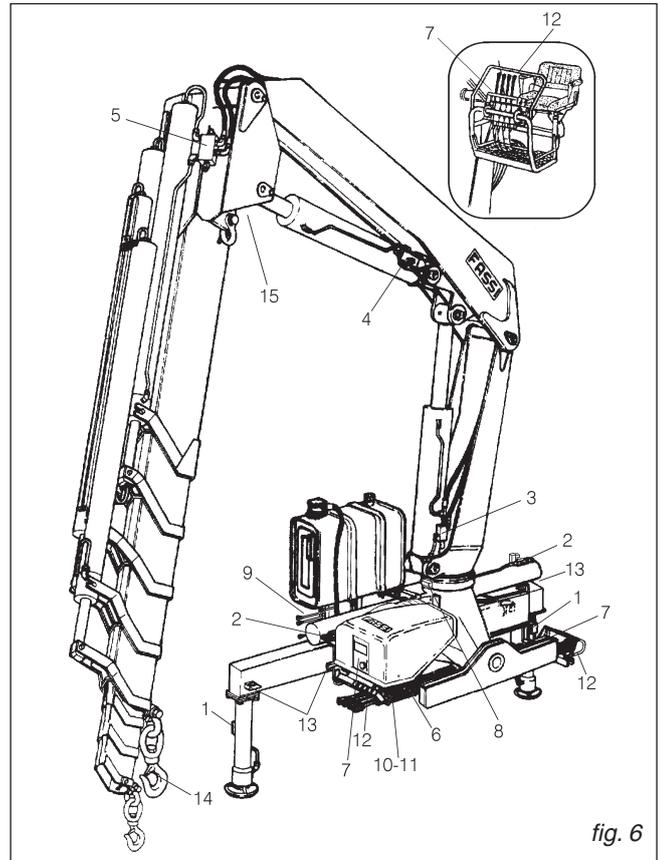

fig. 6
10.1 Crane with ground controls on both sides. Crane with ground controls on both sides and with top seat controls by hand cables (on request)(fig. 6).